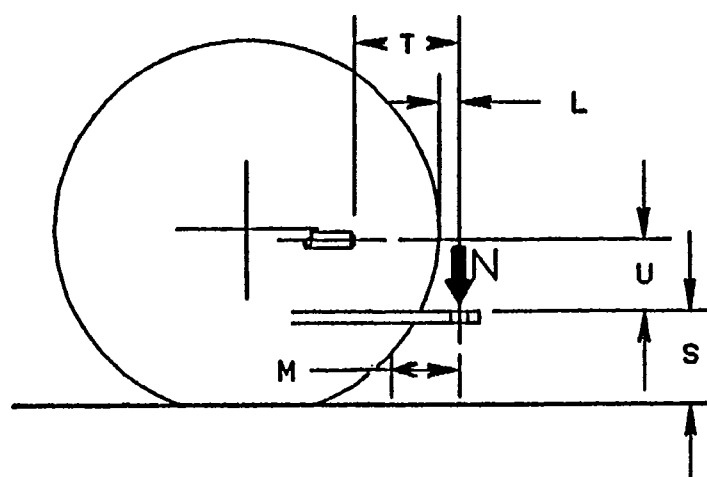

FIGURE 1—TRACTOR POWER TAKE-OFF AND DRAWBAR
3.1 The drawbar dimensions shall conform to Figures 1, 2, 3 and Tables 2 and 3.